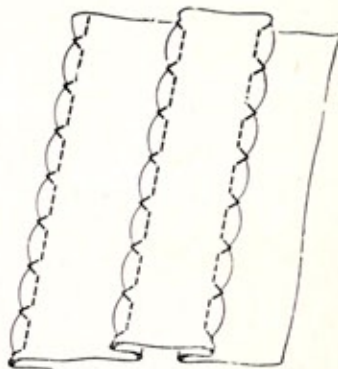

Fig. 73
50. SHELL STITCH (fig. 73)
Place fabric under presser foot, in order that the portion to be hemmed moves towards your left. Then start sewing, guiding the fabric by hand. Fig. 73 shows an interesting motif.